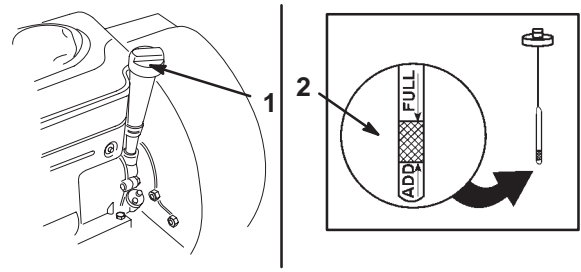

Figure 10
3. Clean around the oil dipstick (Fig. 10).
4. Pull out the dipstick and wipe the metal end clean (Fig. 10).
5. Slide the dipstick fully into the dipstick tube and tighten it (Fig. 10).